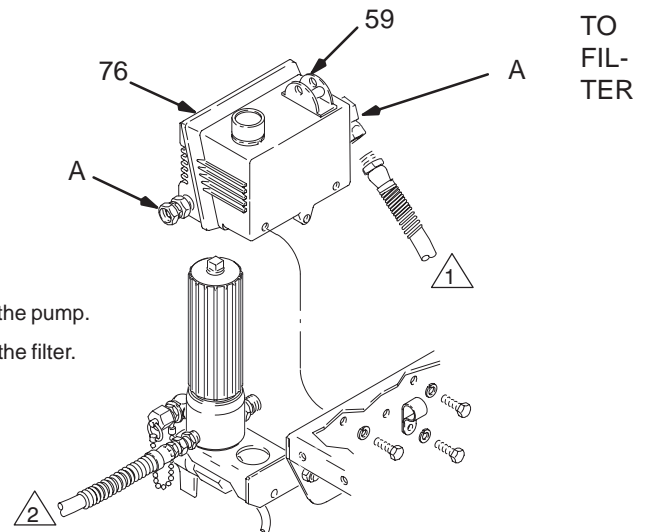

Fig. 7
2. Disconnect the pressure control while holding the fitting or elbow (A) firmly. See the **CAUTION**, below. See Fig. 7.